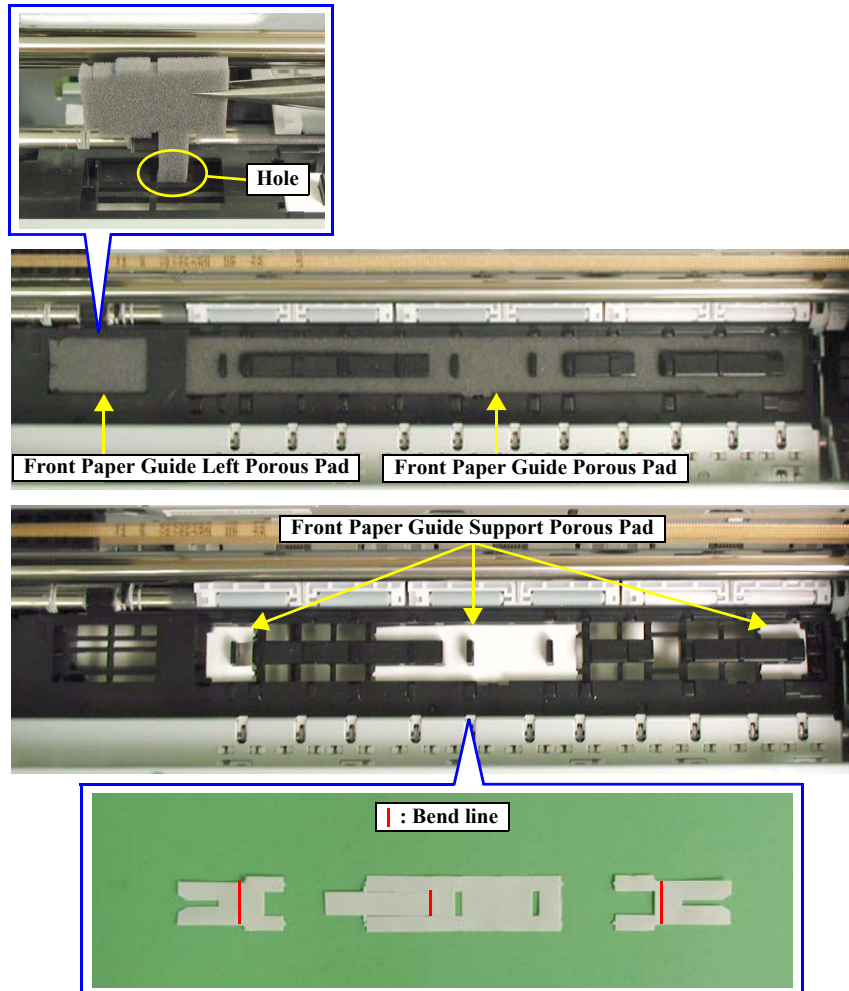

Figure 2-20. Removing the Front Paper Guide Porous Pads
- Put the protrusion of the Front Paper Guide Left Porous Pad into the hole shown in Figure 2-20, and make sure the pad is tightly fitted on the Front Paper Guide.
□ Illustration (1)